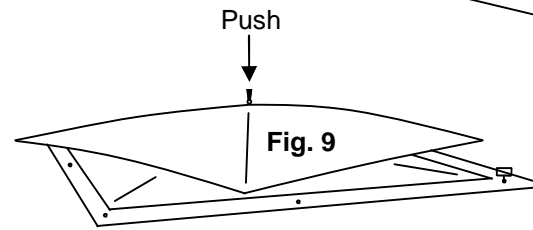

Fig. 9
3) Push Top Hub down. (Fig. 9)